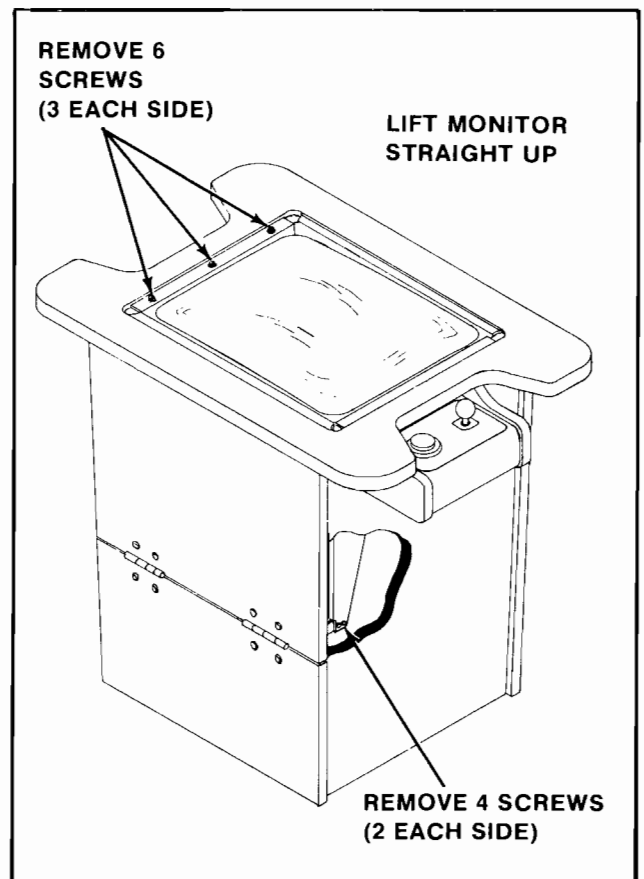

Figure 4-9 Removing Monitor — Cocktail
2. **COCKTAIL TABLE MODEL:** See Figure 4-9.
- Remove the screws holding the T.V. monitor chassis to the "L" brackets by the door hinge(s). See Figure 4-9.
- Remove the screws which secure the T.V. monitor mounting brackets to the edges of the slot cut in the table top. See Figure 4-9.